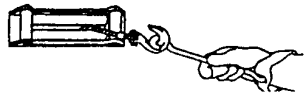

Figure 2
7. NEVER WINCH WITH LESS THAN 5 TURNS of wire rope AROUND THE WINCH DRUM since the wire rope end fastener will NOT withstand a load. Your X9 winch wire rope has a ten-foot red "warning indicator" on each end. The "warning indicator" at the winch end warns you that the wire rope is near or less than 5 turns. The "warning indicator" at the hook end of the wire rope warns you that the hook is approaching the winch. ALWAYS USE THE HAND-SAVER BAR when guiding the wire rope in or out (see Figure 2). As you use your winch, the red paint will wear off due to normal use. When this happens, renew the red paint as it is a **safety feature of the winch**.